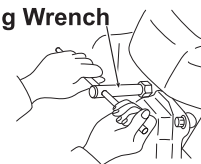
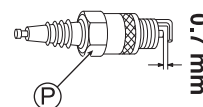

Fig. 31
Fig. 32
- Remove Ignition plug (P) with the attached plug wrench. (See Fig. 31)
- Exchange Ignition plug (P) if a great amount of carbon is adhered to it or its insulator is cracked or damaged.
- Remove the carbon adhered to the electrode, and adjust the electrode clearance to 0.7 mm. (See Fig. 32)
- Install Ignition plug (P) and Plug cap (Q).